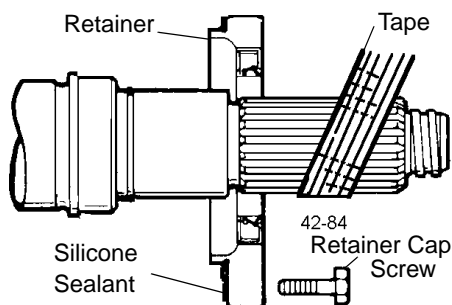
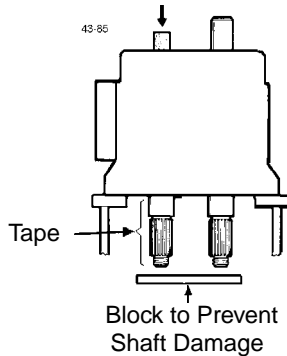

Figure 71 - Remove Bearing Retainers
Figure 73 - Press Shafts from Gear Case
NOTE: Protect the liquid end of the shafts by wrapping them with tape. See Figure 71 and Figure 73.
3. Remove the front bearing retainer screws and pull off the bearing retainers (Figure 71). If a retainer is stuck, leave it in place; it will press out when the shaft is removed.
5. Place the gear case on an arbor press with the liquid end facing down. Protect the shaft ends with a wood or plastic block (Figure 73) and press the shafts out of the gear case. See Table 9, "Arbor or Hydraulic Press Required (Tons)," on page 48.